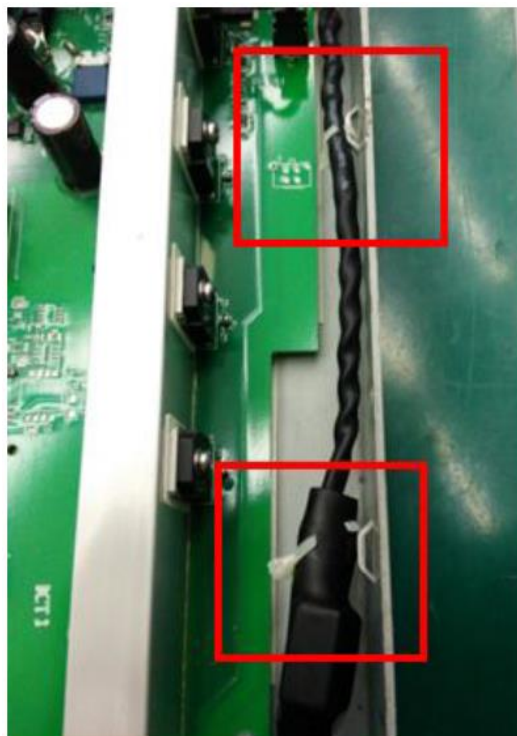

Figure 7
7. Cut 2 of the cable ties which secure the AC line cable as shown in Figure 7.